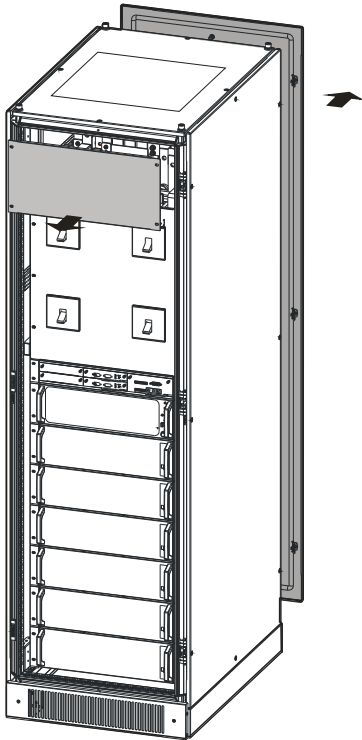

Figure3-17 Remove the sealing plate diagram
- Step 1 Open the front door and rear door of the cabinet, as shown in Figure3-17.
Figure3-17 is as an example. The module number please refers to the product.